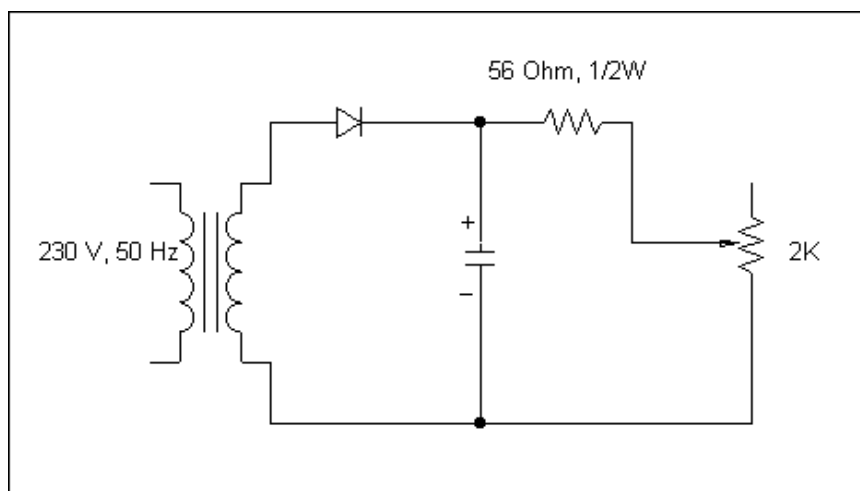

Fig.1 Circuit For Half-Wave Rectifier
In the circuit of fig.1, the supply voltage is alternating. A large diode current will flow only during the positive half cycles of this voltage. As a result, the load voltage V_L will practically consists of half sinusoids and will possess a d.c component. Since the negative half cycles of the input signal are almost cut off and absent from the output signal.
- Construct the circuit as shown schematically in Fig.1. using 220V/12V transformer and with specified R_L .